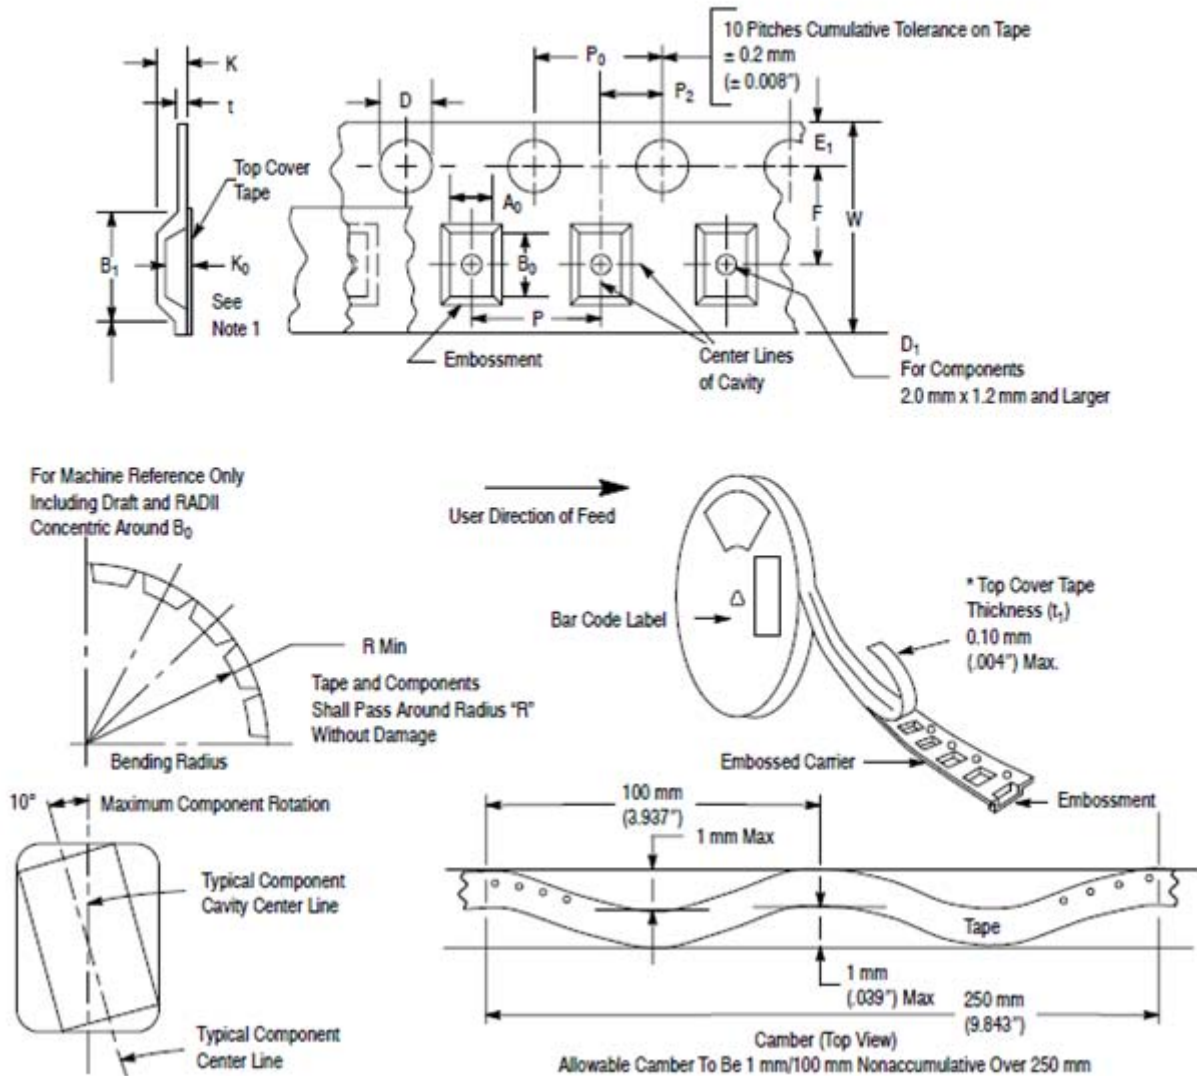

Figure 31. Tape-and-Reel example
- Freescale complies with EIA-481D for carrier Tape-and-Reel configuration. See Figure 31.